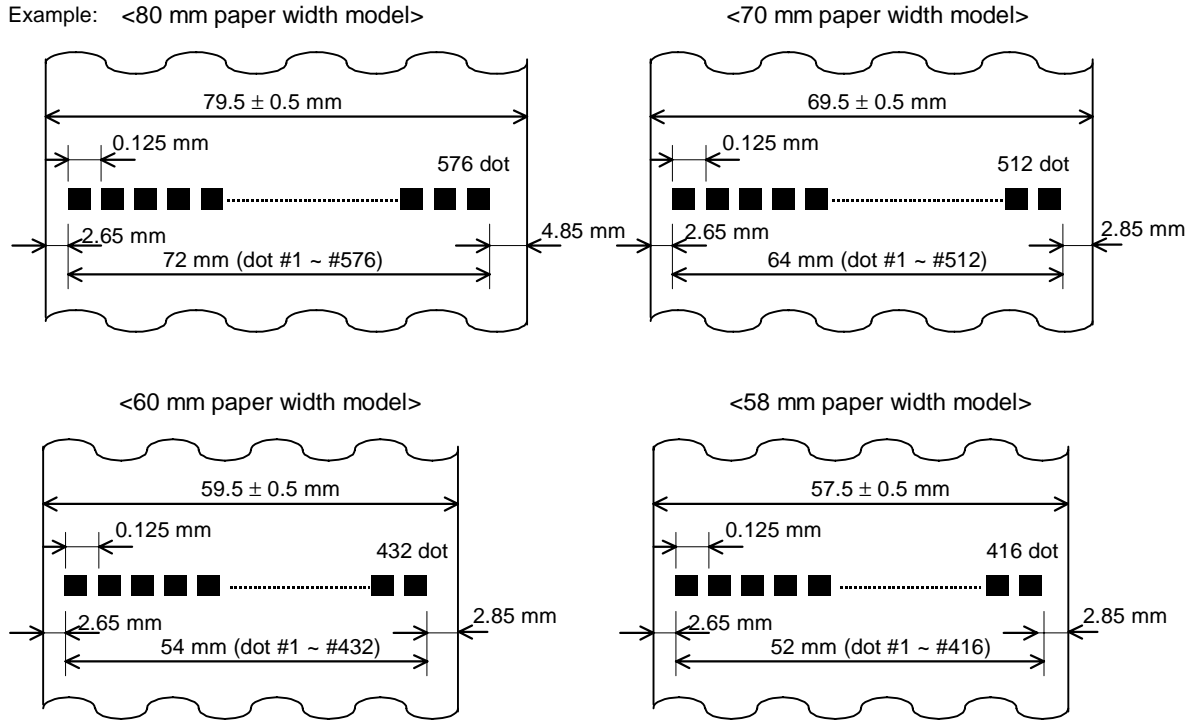

Figure 1.7.1 Printable Area (for Thermal Paper)
- The printable area may be out of alignment by 2 mm {0.08"} maximum (left or right), due to the paper position or tolerance of parts. Therefore, the print area must be set in the range of more than 2 mm from the edges of the paper. To make the margin for both sides safely, it is recommended to set a margin of 2.6 mm {0.1"} or more, as shown in Figure 1.7.1.